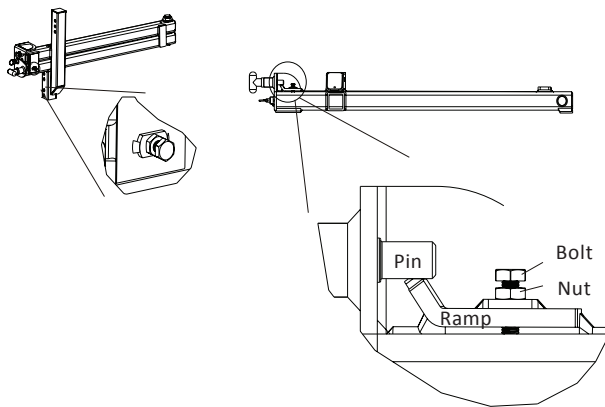

Figure 4-15
3. Tighten the nut. Open and close the swing-away. **See Figure 4-15.**